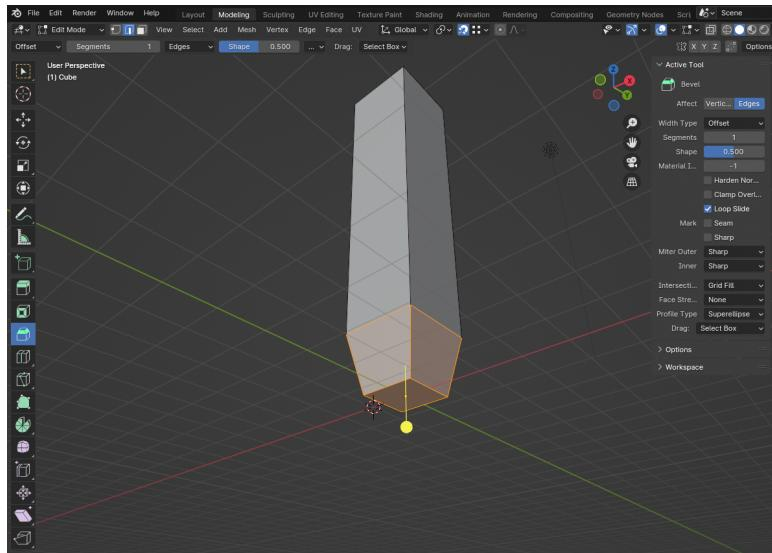

Figure 1.6: Cutting off the end of the table leg.
5. Select four edges of the bottom face and use *Bevel* modifier from the left *Toolbar* to add chamfer to the leg object (see Fig.1.6).